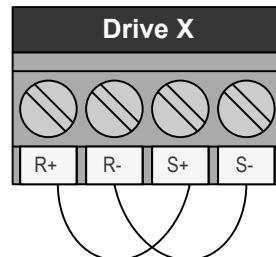

Figure 4.18 Drive Terminal Jumpers
1. Jumper terminals (R+ to S+) and jumper terminals (R- to S-) on each individual drive according to Figure 4.18.